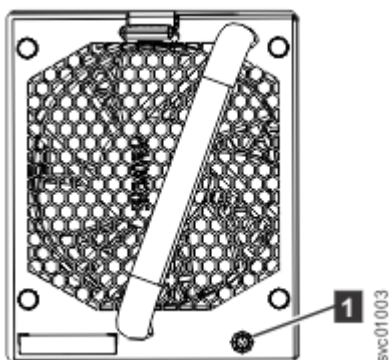

Figure 179. Fan module LED
1. Identify the fan module to be replaced. When lit, the amber LED on the front of the fan module (1 in Figure 179 on page 207) identifies a fault.